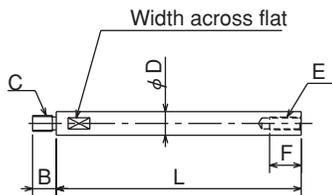

Fig.21
The dimension L in Fig.21 is determined from the distance A between the cylinder adapter and the back plate.
- Keep the dimension D in Fig. 21 for the draw bar and a material with the tensile strength 380MPa (38kgf/mm2) or more must be used.